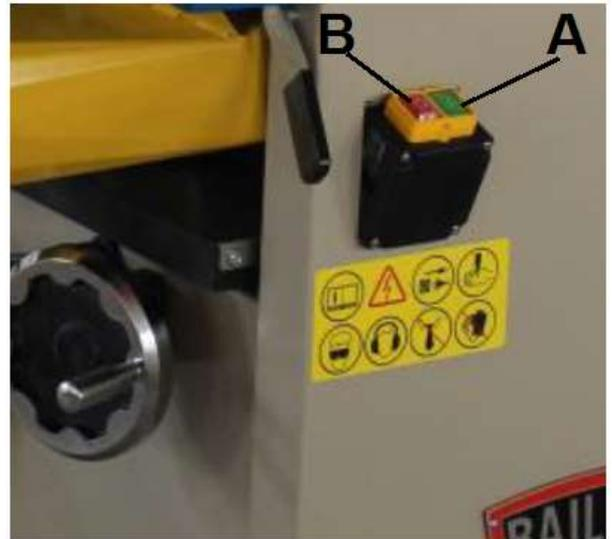

Figure 4
1. Once a properly rated plug is connected, plug power cord into outlet. Press the green on button (A, Fig. 4) to start. Press the red off button (B, Fig. 4) to stop.